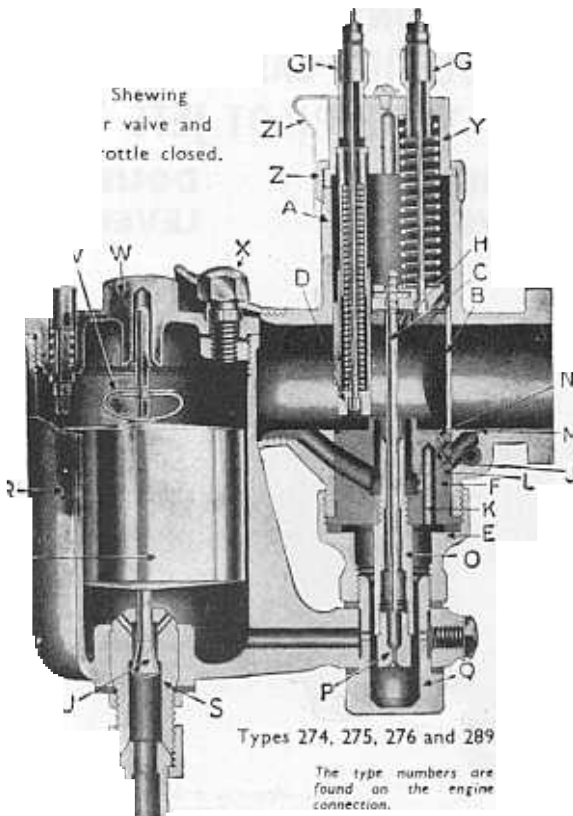

Fig. 2.
FIG. 2 above is the sectioned view of the Standard Amal Carburetter as shown on page 1, Fig. 1.
**BAD PETROL CONSUMPTION** of a new machine may be due to flooding, caused by impurities from the petrol tank lodging on the float needle seat and so prevent its valve from closing. If the machine has had several years use, flooding may be caused by a worn float needle valve. Also bad petrol consumption will be apparent if the throttle needle jet "O" (see fig. 2) has worn: it may be remedied or improved by lowering the needle in the throttle, but if it cannot be—then the only remedy is to get a new needle jet.
**RE-ASSEMBLING after dismantling.** Note particularly that the mixing chamber nut E (fig. 2, page 2) is tightened up tight on to the washer that holds the jet block F (fig. 2, page 2), otherwise petrol will leak up. When replacing the throttle see that the throttle needle goes into the centre hole in the choke block and once in, note the throttle works freely when the mixing chamber top ring Z is screwed down firmly and held by spring ZI.
**Float chamber lid.** To remove, first loosen screw X (fig. 2). To remove float, pinch the bow V (fig. 2), and pull: when replacing, slip over needle and slide down till bow jumps into the needle groove. Care required to avoid bending needle.